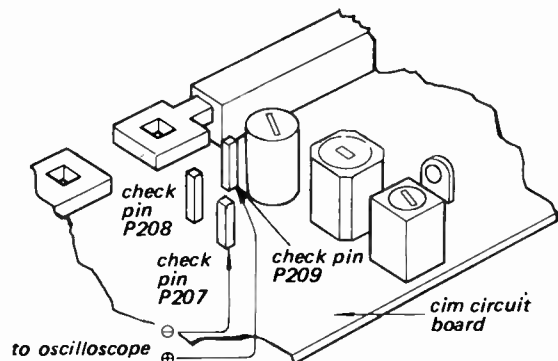

Fig. 3-4. Oscilloscope connection
2. Oscilloscope Connection : Check pins P207 and P209 as shown in Fig. 3-4